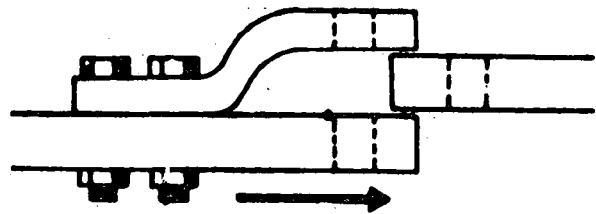

Fig. 2
- a) Reverse the tractor slowly. Line up the holes on the draw-bar (Fig. 2).